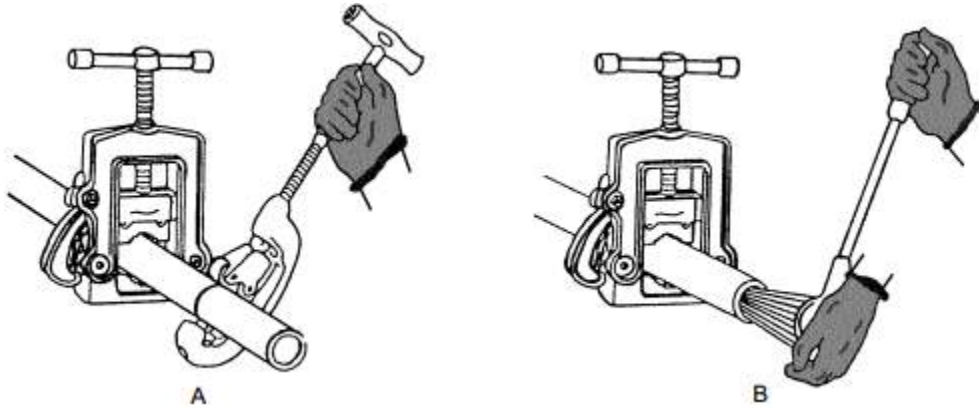

Figure 2.20 Cutting steps of Iron pipe
Step 4. Place the cutter around the pipe with the cutting wheel exactly on the mark. The rollers will ensure a straight cut (Figure 2.20 A). If using a three-wheel cutter, place the cutting wheel of the movable jaw on the mark; ensure that all three wheels are at right angles to the centerline of the pipe.
Step 8. Push the reamer into the pipe. Turn the reamer clockwise in short, even strokes, while keeping steady pressure against the pipe (see Figure 2.20 B) until the inside burrs are removed.